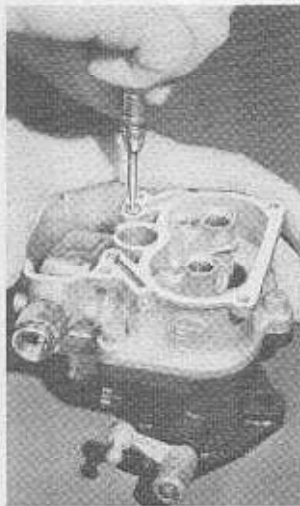

Fig. 5
- (1) 40-9640 Spring — accel. pump plunger-upper
- 5 Remove following as shown in Fig. 5:
- (2) 40-9542 Jet—idling